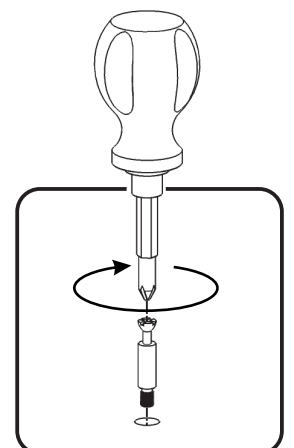

Figure 1
Insert Cam Lock Screws into pre-drilled holes in Top (A), Middle Panel (F), Plinths (I), Bottom (J), Side Panels (G) and (H), then tighten. (See Figure 1)